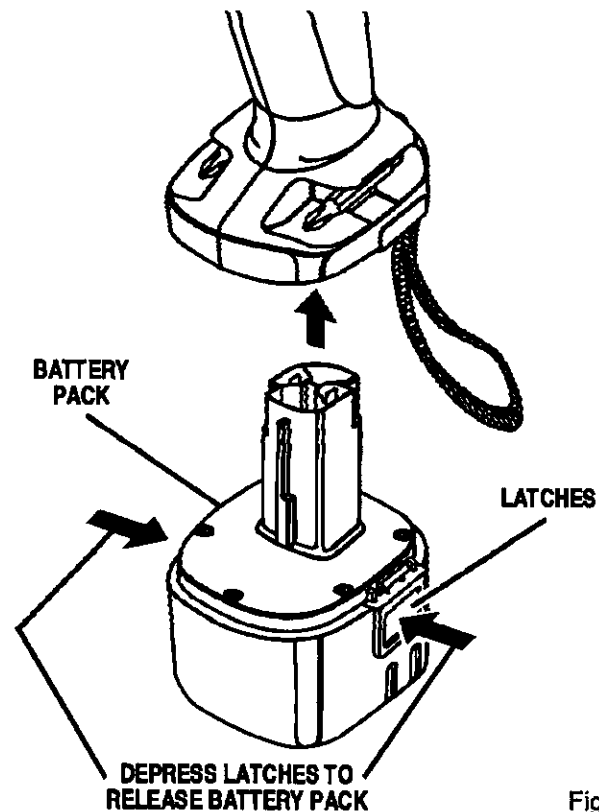

Fig. 3
- Place battery pack in your drill. Align raised rib on battery pack with groove inside drill. See Figure 3.
- Locate latches on end of battery pack and depress to release battery pack from your drill. See Figure 3.